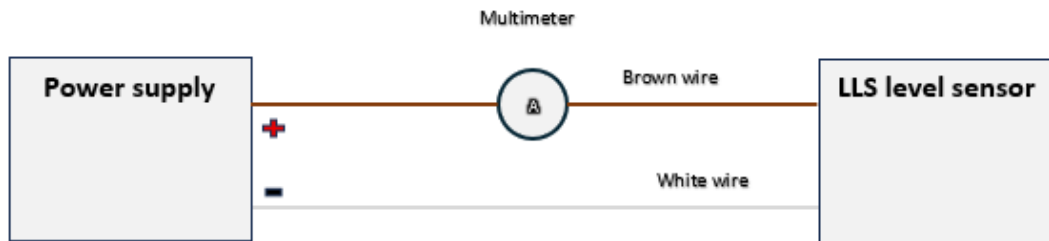

Fig. 2 Connection Diagram
3. Assemble the connection circuit according to "Fig.2 Connection Diagram."